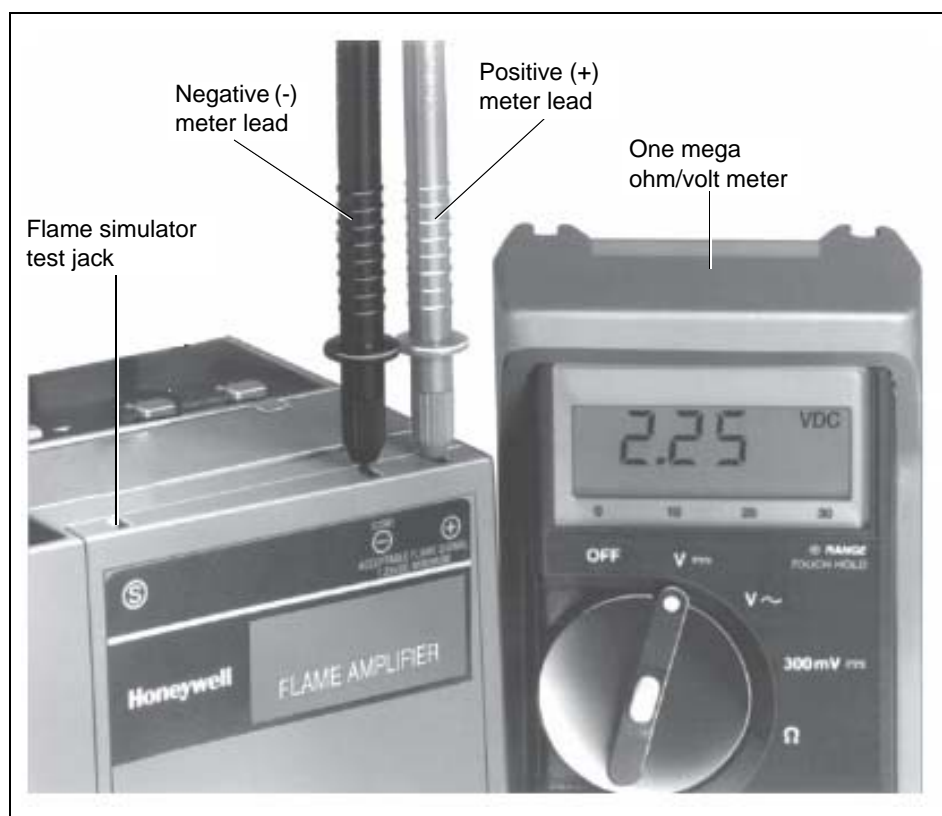

Figure 7C Honeywell Test Flame
- Flame signal can be checked at the Honeywell burner control, located in the main power panel, as shown in Figure 7C on Page 45.